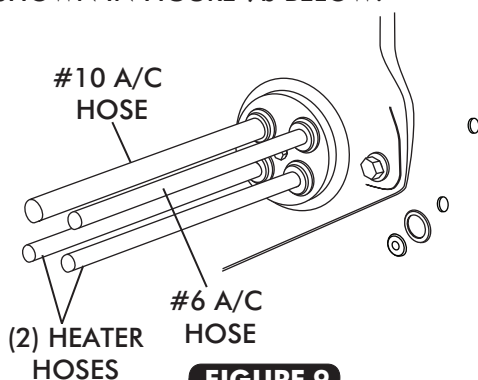

FIGURE 9
- ☐ ROUTE A/C AND HEATER HOSE THROUGH FRESH AIR CAP AND KICK PANEL FRESH AIR CAP AS SHOWN IN FIGURE 9 AND 9b, BELOW.